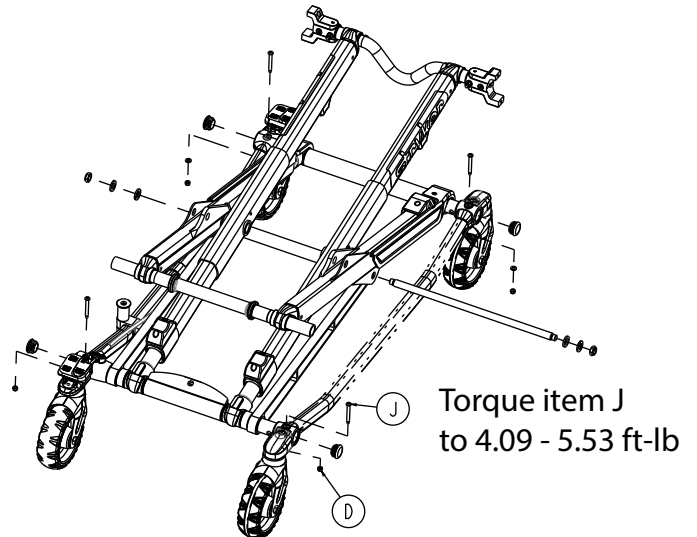

Figure 67 – Remove the foot end bolt and nut
9. Using a T27 Torx driver and a 3/8" combination wrench, remove the caster mount bolt (J) and fiberlock nut (D) that secure the outer base tube (Figure 67). Save the bolt and nut. Repeat on the head end.